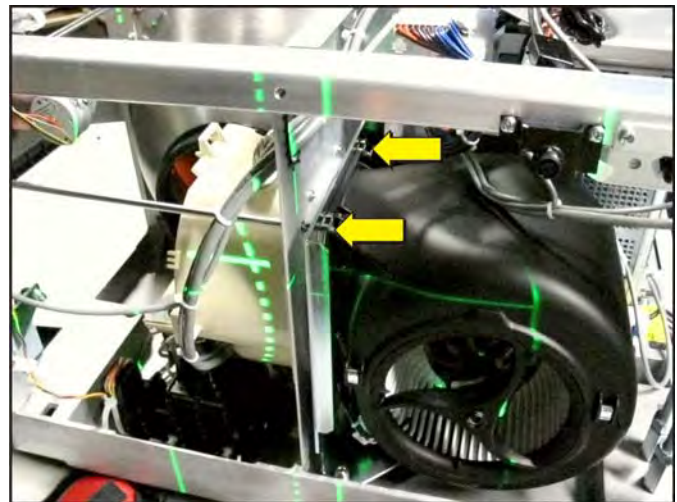

Figure 5-61 Main AC Blower
5. Using a #2 Phillips™, remove the four screws securing the blower (two screws on top and two on bottom). (**Figure 5-61**)